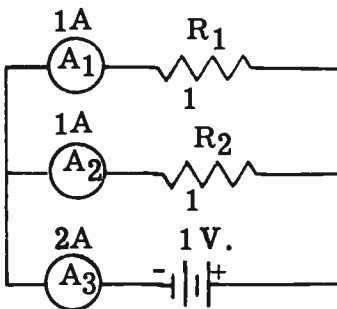
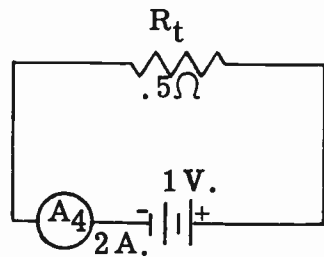

FIG. 2-7A. PARALLEL CIRCUIT.
FIG. 2-7B. EQUIVALENT CIRCUIT.
**RESISTORS IN PARALLEL.** The circuit in Fig. 2-7A is called a **PARALLEL CIRCUIT**.  $R_1$  and  $R_2$  are in parallel with each other.
If each resistor in Fig. 2-7A has a value of one ohm, it would be twice as easy for the current to pass through the parallel combination than it would be for it to pass through either one of the resistors alone. The total parallel resistance would, therefore, be one-half of either one of the resistors, or
one-half ohm. **THUS, WE CAN SAY THAT THE TOTAL RESISTANCE OF TWO EQUAL RESISTORS IN PARALLEL IS EQUAL TO HALF OF ONE OF THEM.** The schematic diagram in Fig. 2-7B shows the equivalent circuit of Fig. 2-7A.
For example, if R1 and R2 of Fig. 2-7A are 3 and 6 ohms respectively, the total resistance would be:
(2) Different amounts of current flow through the different branches of a parallel circuit. The amount of current flowing through each branch depends upon the resistance of the individual branch. The total current drawn from the battery is equal to the sum of the individual branch currents.
(3) The voltage across all the branches of a parallel circuit is the same; in Fig. 2-7A, the voltage across R1 is the same as the voltage across R2.